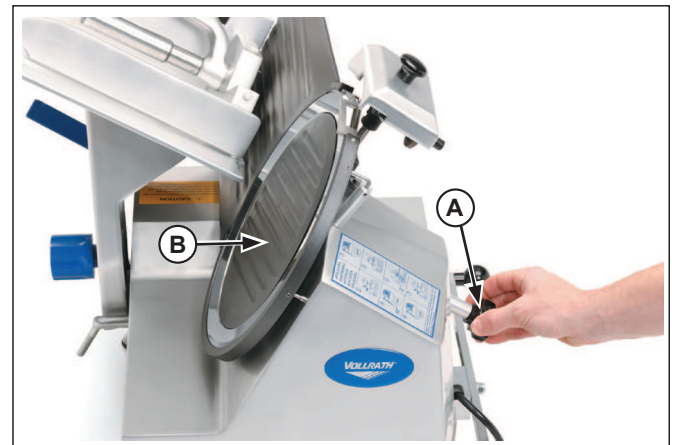

Figure 3. Blade Cover and Securing Knob
5. Loosen the securing knob (A) and remove the blade cover (B). See Figure 3.
1. Loosen the securing knob (A) and remove the blade cover (B). See Figure 3.
16. Install the blade cover (B) and tighten the securing knob (A). See Figure 3.